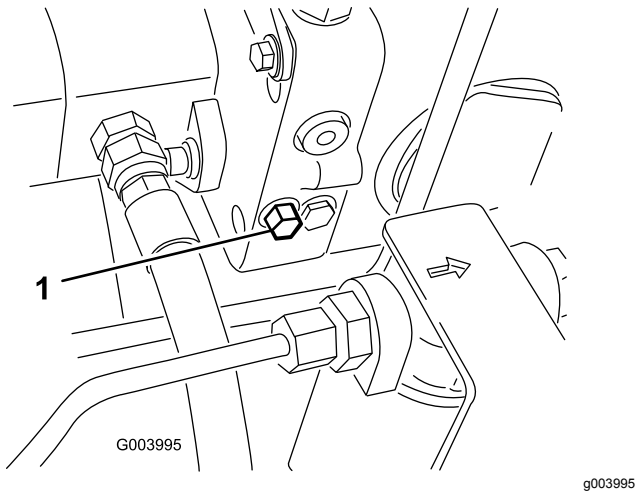

Figure 56
1. Locate the bypass valve on the left side of the hydrostat (Figure 56).